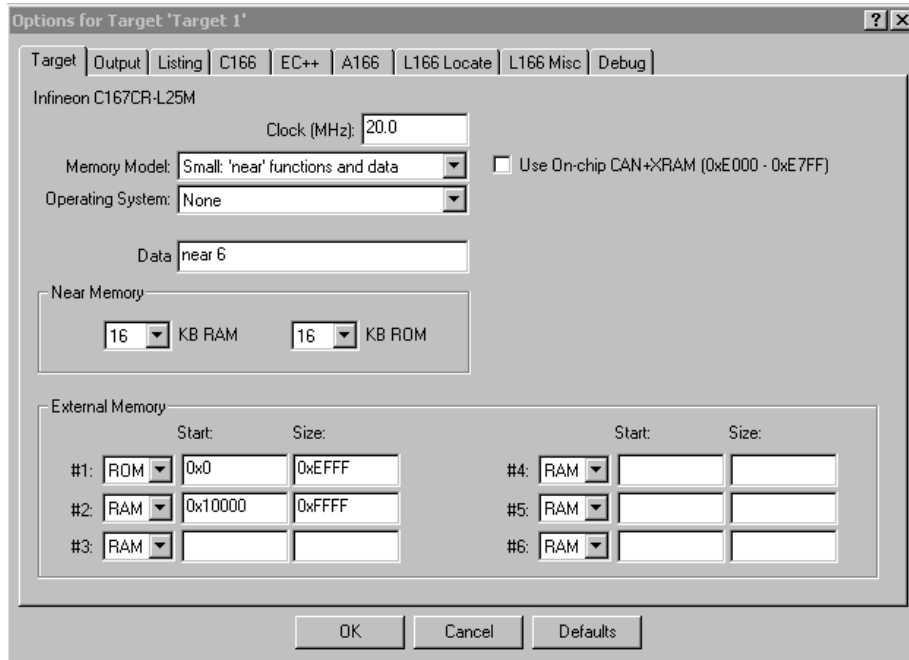

Figure 11. Reserving memory for code and data
- Now, we just have to reserve memory for code and data. Click on the **Target** tab and change the options under Target to match figure 11.